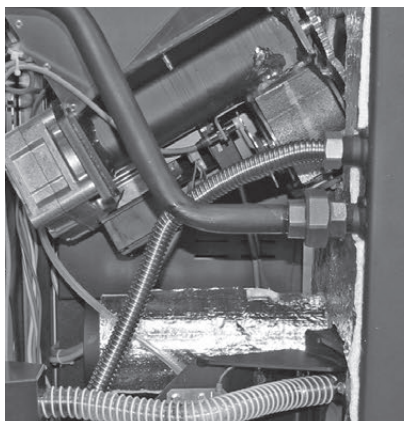

Fig. 24 Attaching return corrugated tube to top boiler connection
- Route return corrugated tube (part 1) behind flow pipe (part 6). Screw on to top boiler connection using union nut and Klingerit seal – Fig. 24.